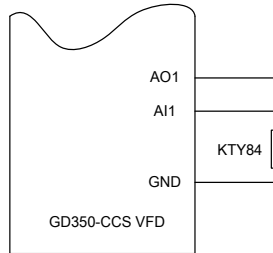

Figure 5-14 Wiring between analog terminals and KTY84
Step 1 Connect KTY84 according to Figure 5-14.